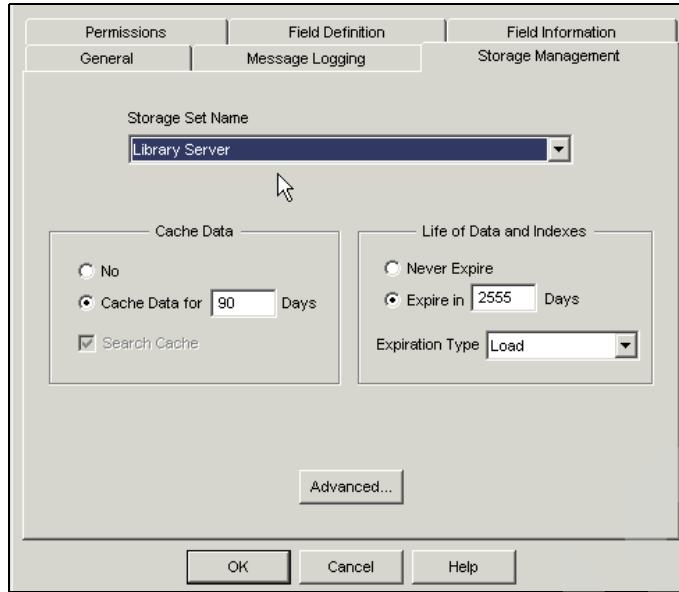

Figure 8-36 Update an application group storage management
- c. Select the **Storage Management** tab from the Update an Application Group window. From the Storage Set Name list, choose the name of the storage set you updated in the previous steps (Figure 8-36 on page 337).